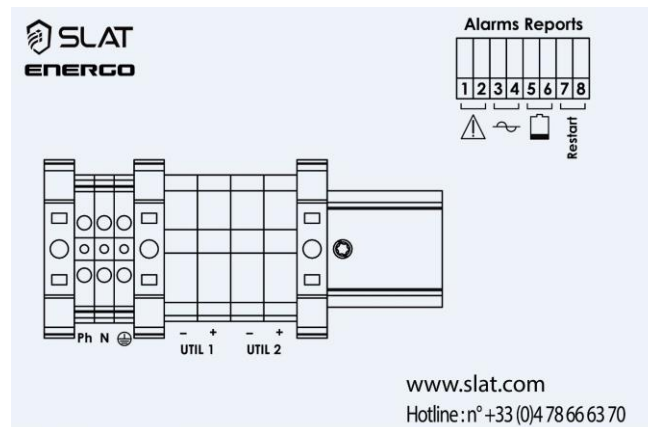

Figure 3: ENERGO LI model connection terminals, 2 fused user feeders
- Connection is performed through the cable glands provided in the places shown (Figure 3).
- Le raccordement s'effectue à travers les presses étoupes fournis aux emplacements indiquées (Figure 3).